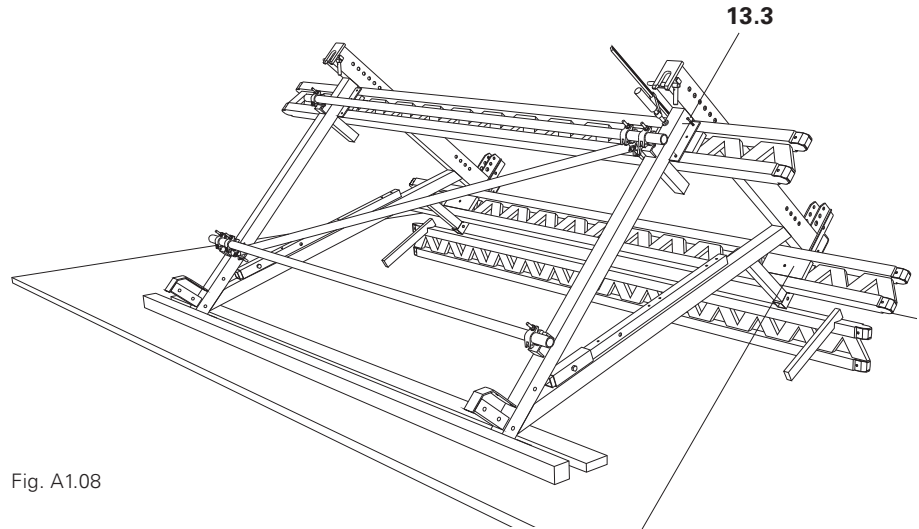

Fig. A1.08
**When using PERI GT 24 girders, strengthen them on both sides in the area of the brackets with plywood strips (13.2). (Fig. A1.08)**
(Fig. A1.08)